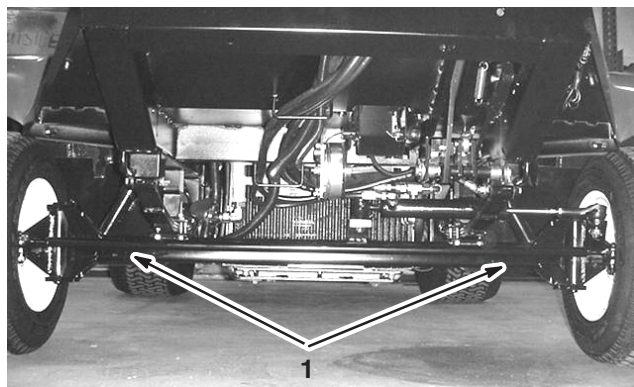

Figure 19
2. Affix a tow line to the frame. Refer to the front and rear towing points in Figures 19 and 20.